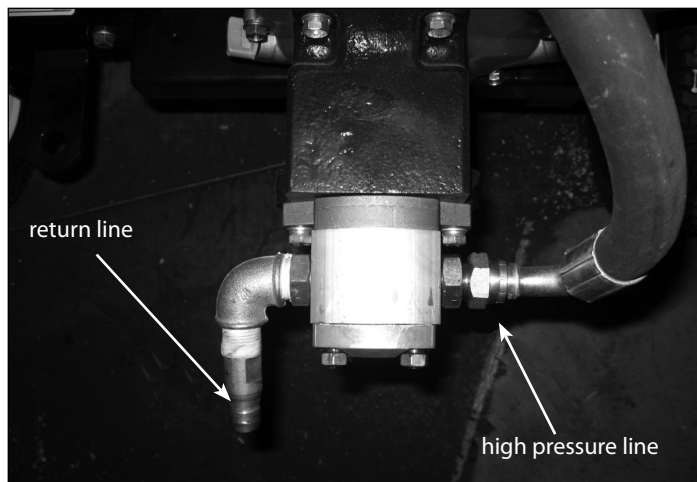

Figure 22
5. Install high pressure hydraulic hose to pump/engine assembly and hydraulic valve assembly Swivel end of hose goes on pump. **SEE FIGURE 22.**